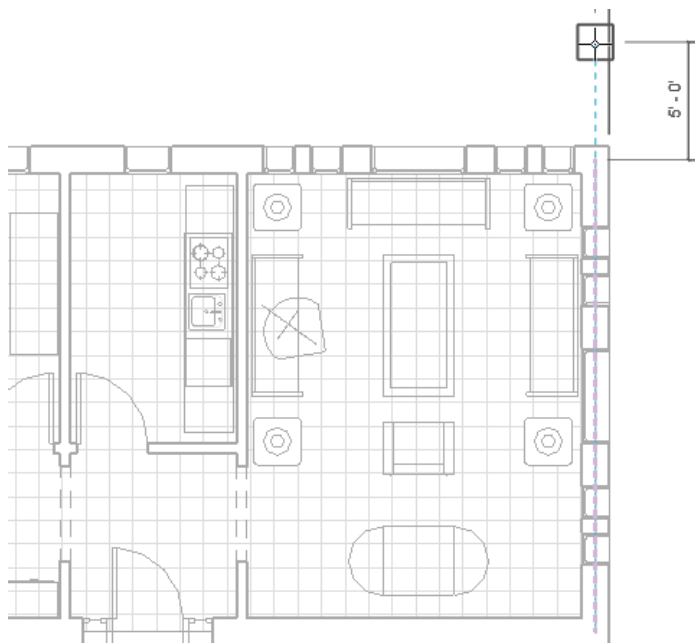

Figure 16-63 Adding structural elements to the Design Option 1
5. Move the cursor near the top right corner of the floor plan and click when the vertical dimension in the upward direction displays **5'-0"** (1500 mm) and the wall centerline is displayed, as shown in Figure 16-63. Now, exit the **Modify | Place Structural Column** tab by choosing the **Modify** button from the **Select** panel.